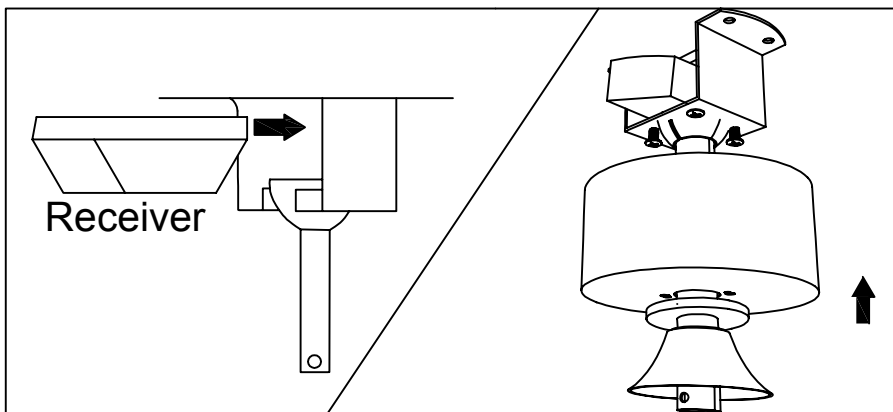

Figure 5.1
- Position the receiver into the mounting bracket as shown direction. When installing the canopy, ensure the antenna is not pressed by the canopy. Ensure to connect all ground wires accordingly. (Figure 5.1)